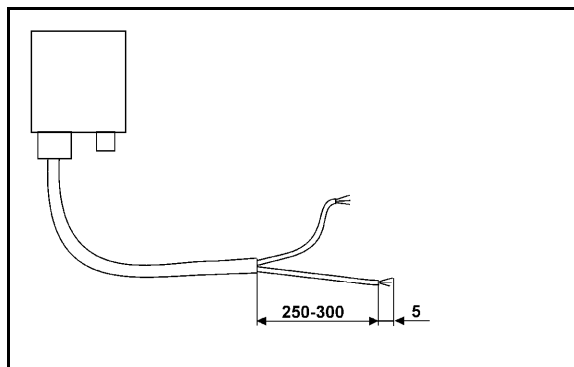

Fig. 3
Example: (Fig. 3/6)
- Figure 3
3. Strip the cable end (Fig. 3) approx. 250 to 300 mm.
- Strip the cable ends (Fig. 3) individually 5 mm.